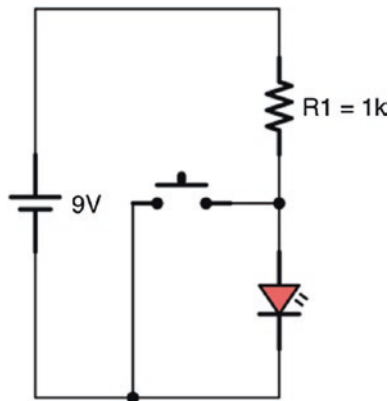

Figure 9-6. Basic Pull-Up Resistor
Figure 9-6 shows the circuit diagram for a basic pull-up resistor circuit. Normally, we think of lighting up an LED by pushing the button. However, in this case, pushing the button causes the current to bypass the LED, which turns it off.
6. In Figure 9-6, how much current is going through the circuit when the switch is open? How much when it is closed? You can assume that the LED is a red LED.
7. How would you modify the circuit in Figure 9-6 to keep the maximum current in the circuit under 2 mA? Draw the full circuit out yourself.